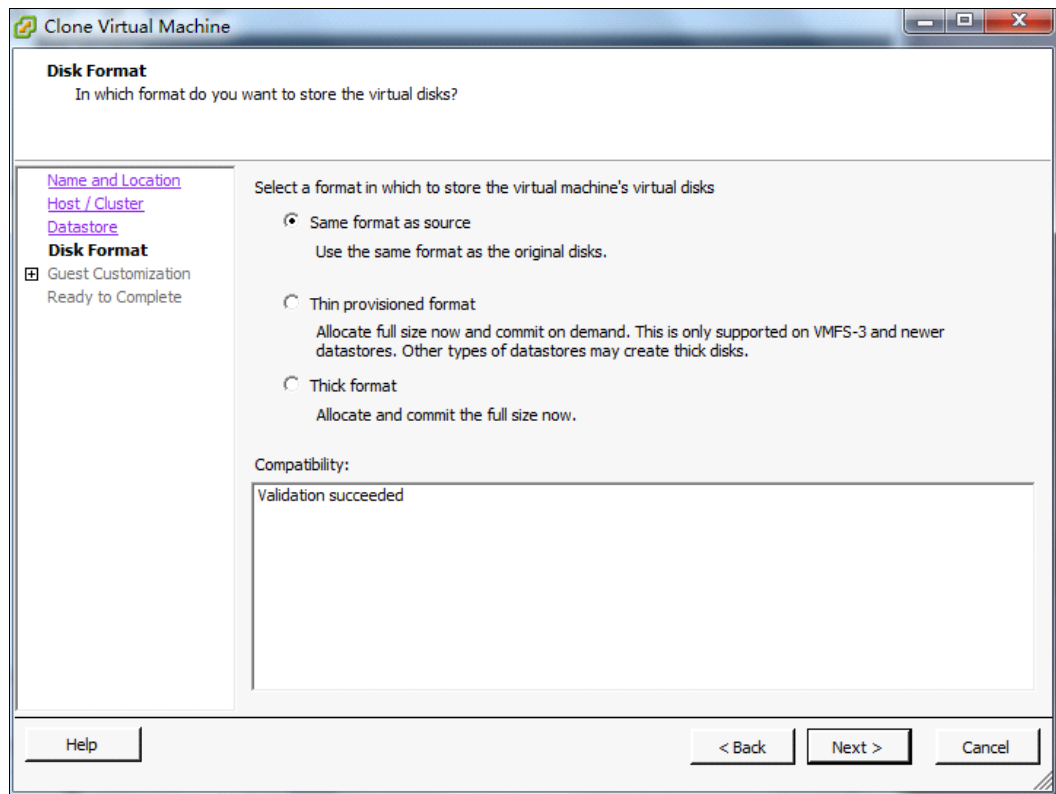

Figure 3-58 Clone Virtual Machine wizard: Disk Format
5. Select the disk format for the new virtual machine, as shown in Figure 3-58. To avoid any additional risk that a disk format change presents, the user must choose the **Same format as source** option. The potential disk format change risk might include (but is not limited to) lost disk access or data corruption. Click **Next**.